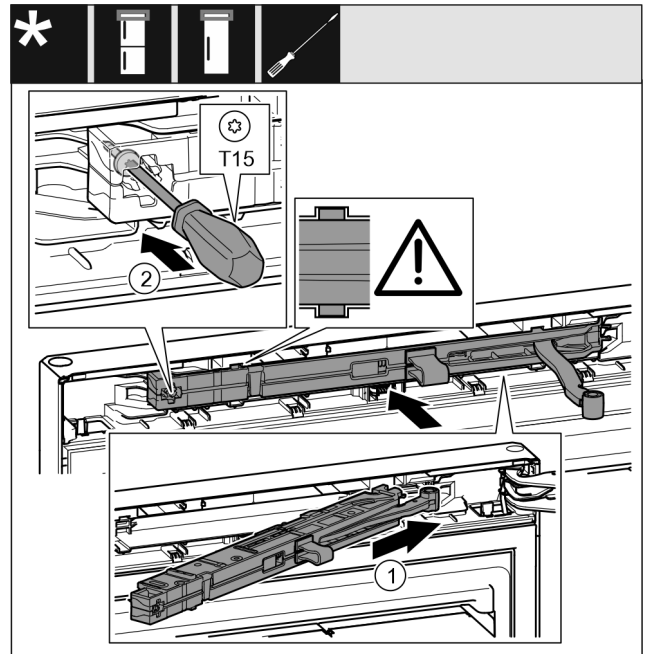

Fig. 21
- ▶ Slide the soft stop mechanism on the bearing bracket side at an angle into the recess as far as it will go. Fig. 21 (1)
- ▶ Tighten the screw using a T15 screwdriver. Fig. 21 (2)